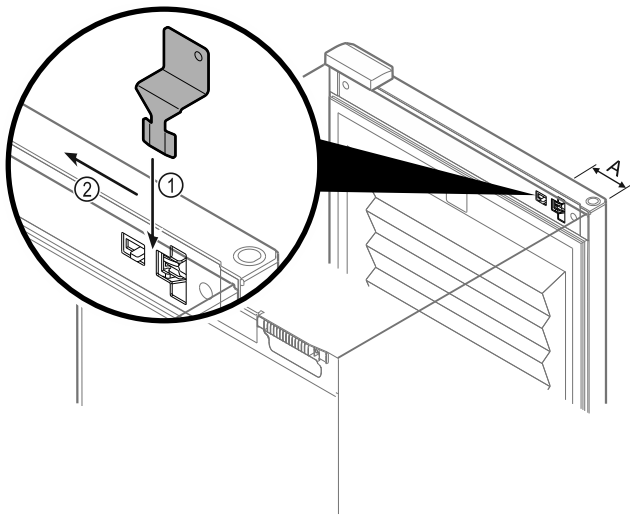

Fig. 90
- ▶ Position the emergency unlocking key in the location shown Fig. 90 (A) ≈ 100mm.
- ▶ Insert the emergency unlocking key from above between the door and the appliance body as far as it will go Fig. 90 (1).
- ▶ Drag the emergency unlocking key towards the hinge side Fig. 90 (2).